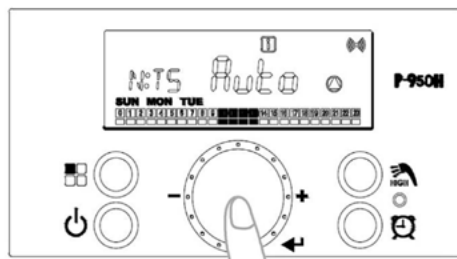

Figure 50 - Set Auto-Learn Recirculation Function
- Turn the dial button at the "Pro1", "Pro2", "Pro3", or "PULS" screens to select a Recirculation Function. See Figure 50 A. Press the  button to select the mode.
- Press the  button to enter the day setting. See Figure 50 B.